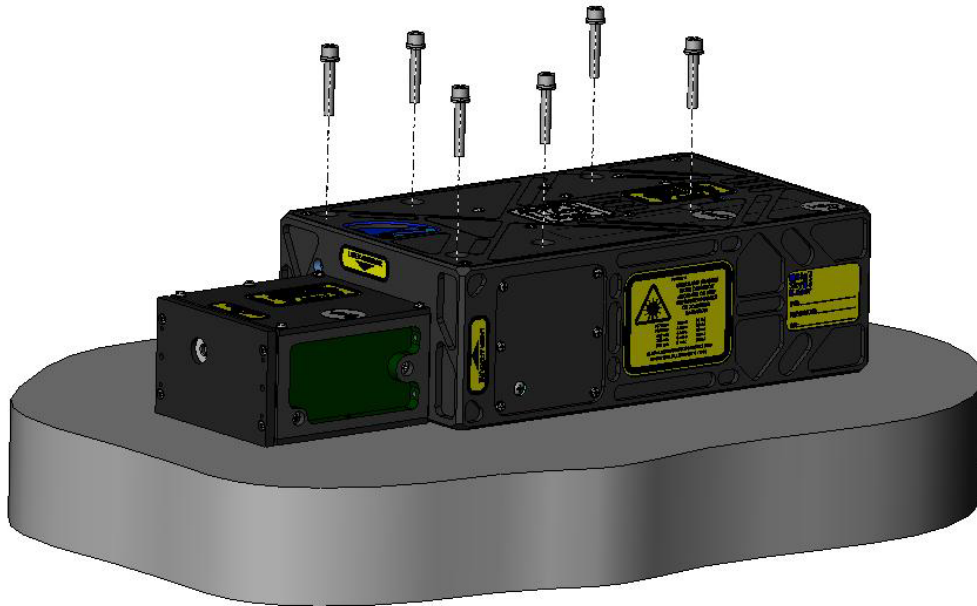

Figure 3-1: User-Supplied Heat Sink
1. The laser can be mounted using a user-supplied heat sink as shown in Figure 3-1. Six (6) #8-32 x 1in. or M4 x 25mm socket head cap screws are used to affix the laser to a properly sized heat sink, with a hole configuration as shown in Figure 3-2. The six screws are inserted straight down through the laser. Reference dowel pins (1/8" or M3) can be used to accurately locate the laser.